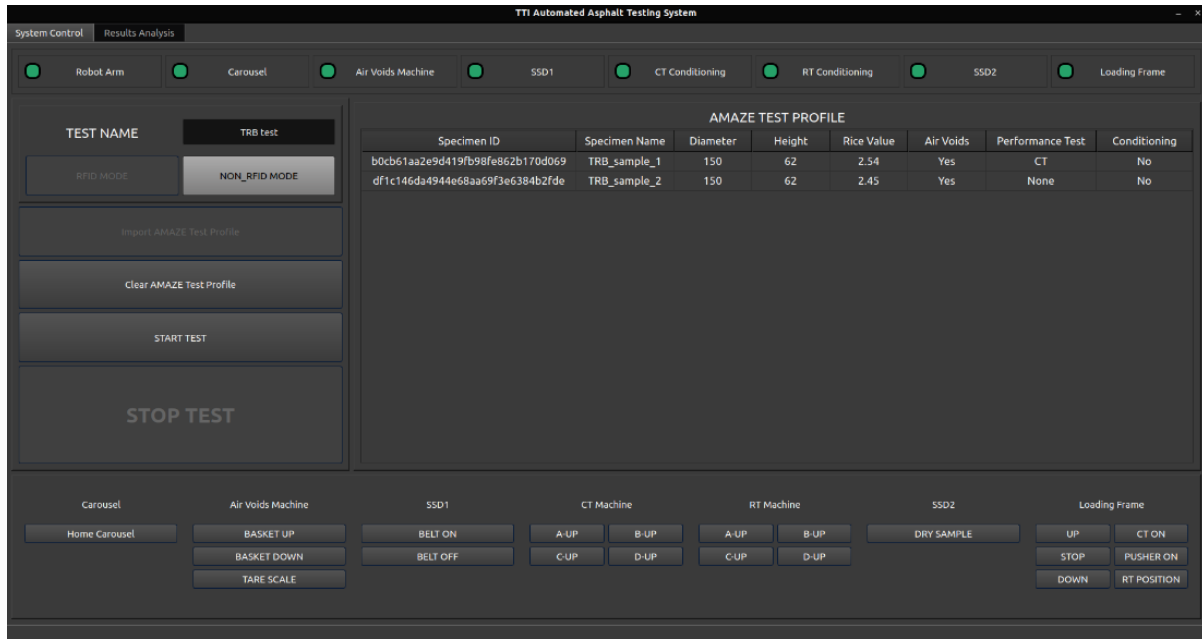

Figure 26. Screen of Machine Status
4. **Verify Machine Status.** Ensure that all the machine status LEDs displayed at the top of the GUI are green. This indicates that each machine is operational and ready for testing. If any LED is red, indicating an issue, reboot the corresponding machine and wait until the LED turns green, signaling readiness. Figure 26 shows all the machine status LEDs as green.